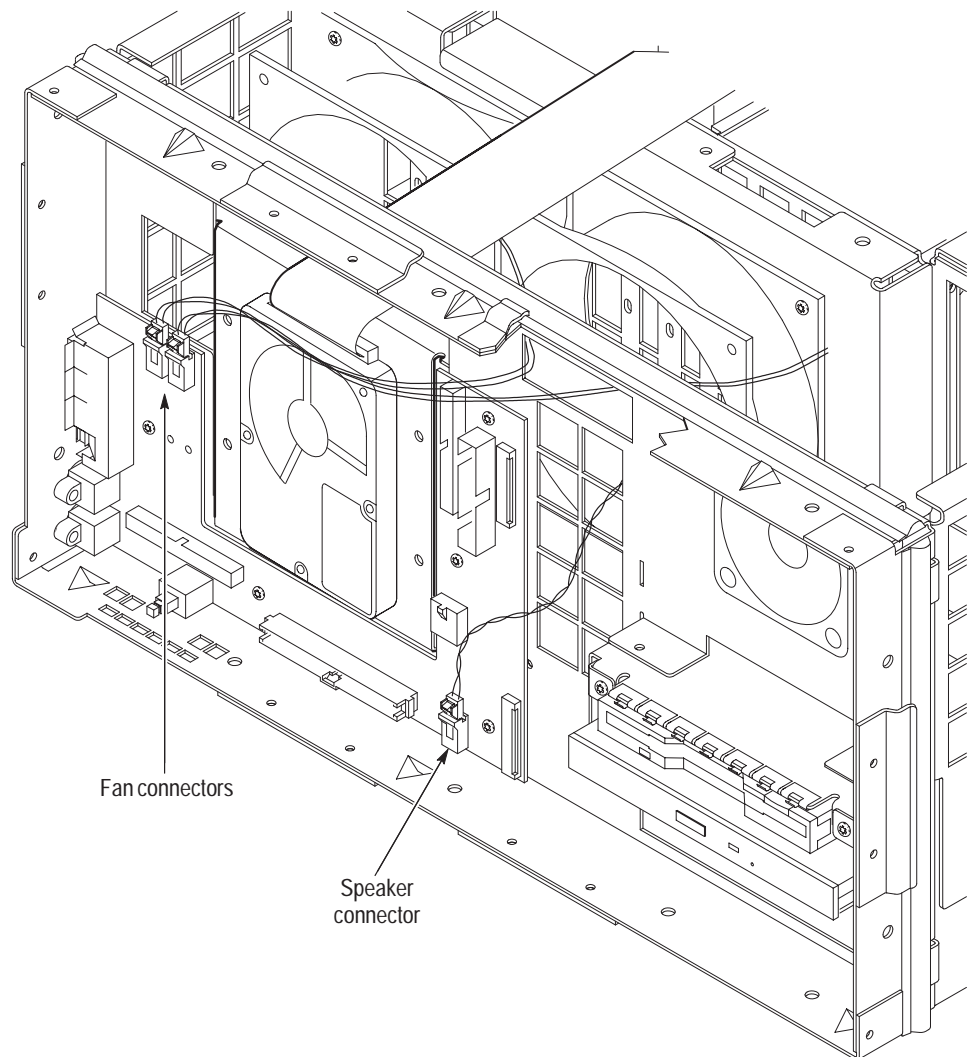

Figure 6–23: Cut-away view showing wire routing of fan and speaker wires
8. Plug speaker wire harness into interface board J980 connector as shown in Figure 6–23.
3. Remove the 15 screws holding the backplane board assembly to the chassis with a T15 screw tip screwdriver (see Figure 6–24 for the screw locations).
1. Place the backplane board assembly into the mainframe chassis. See Figure 6–24 for orientation of back plane to chassis.